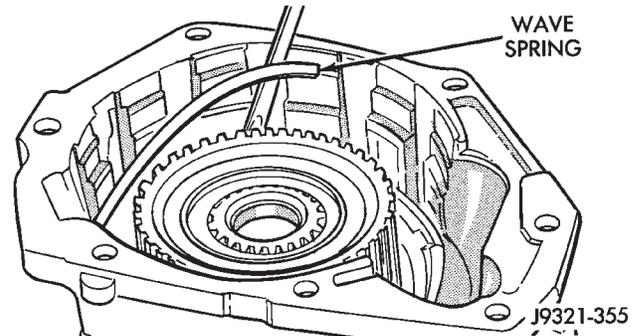

Fig. 215 Overdrive Clutch Wave Spring Removal/Installation
(1) Remove overdrive clutch wave spring (Fig. 215).